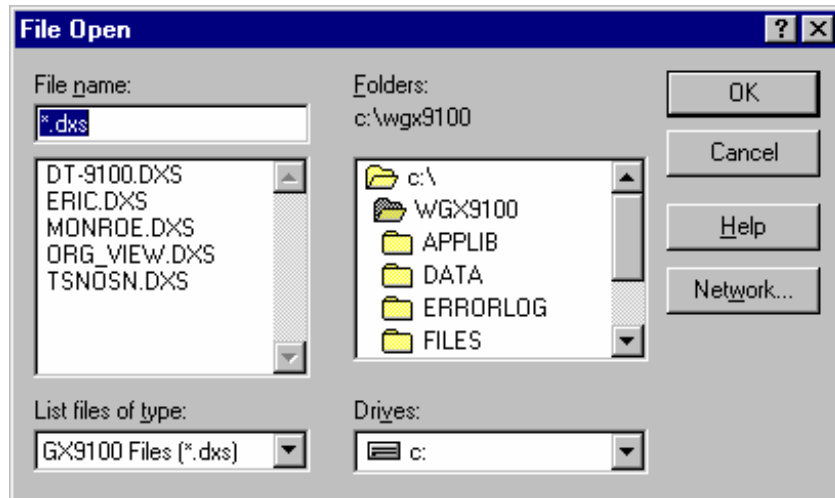

Figure 16-1: File Open Dialog Box
1. On the File menu, click Open. The File Open dialog box appears (Figure 16-1).